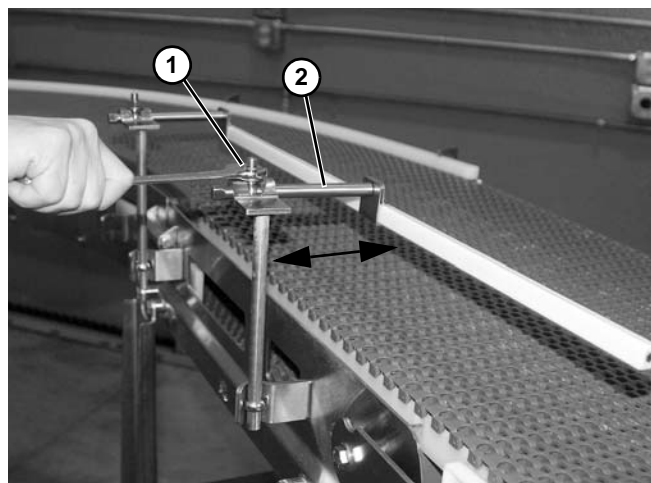

Figure 64
3. Loosen nut (Figure 64, item 1), and adjust the horizontal guide post (Figure 64, item 2) and guide rail, as needed. Tighten nut.